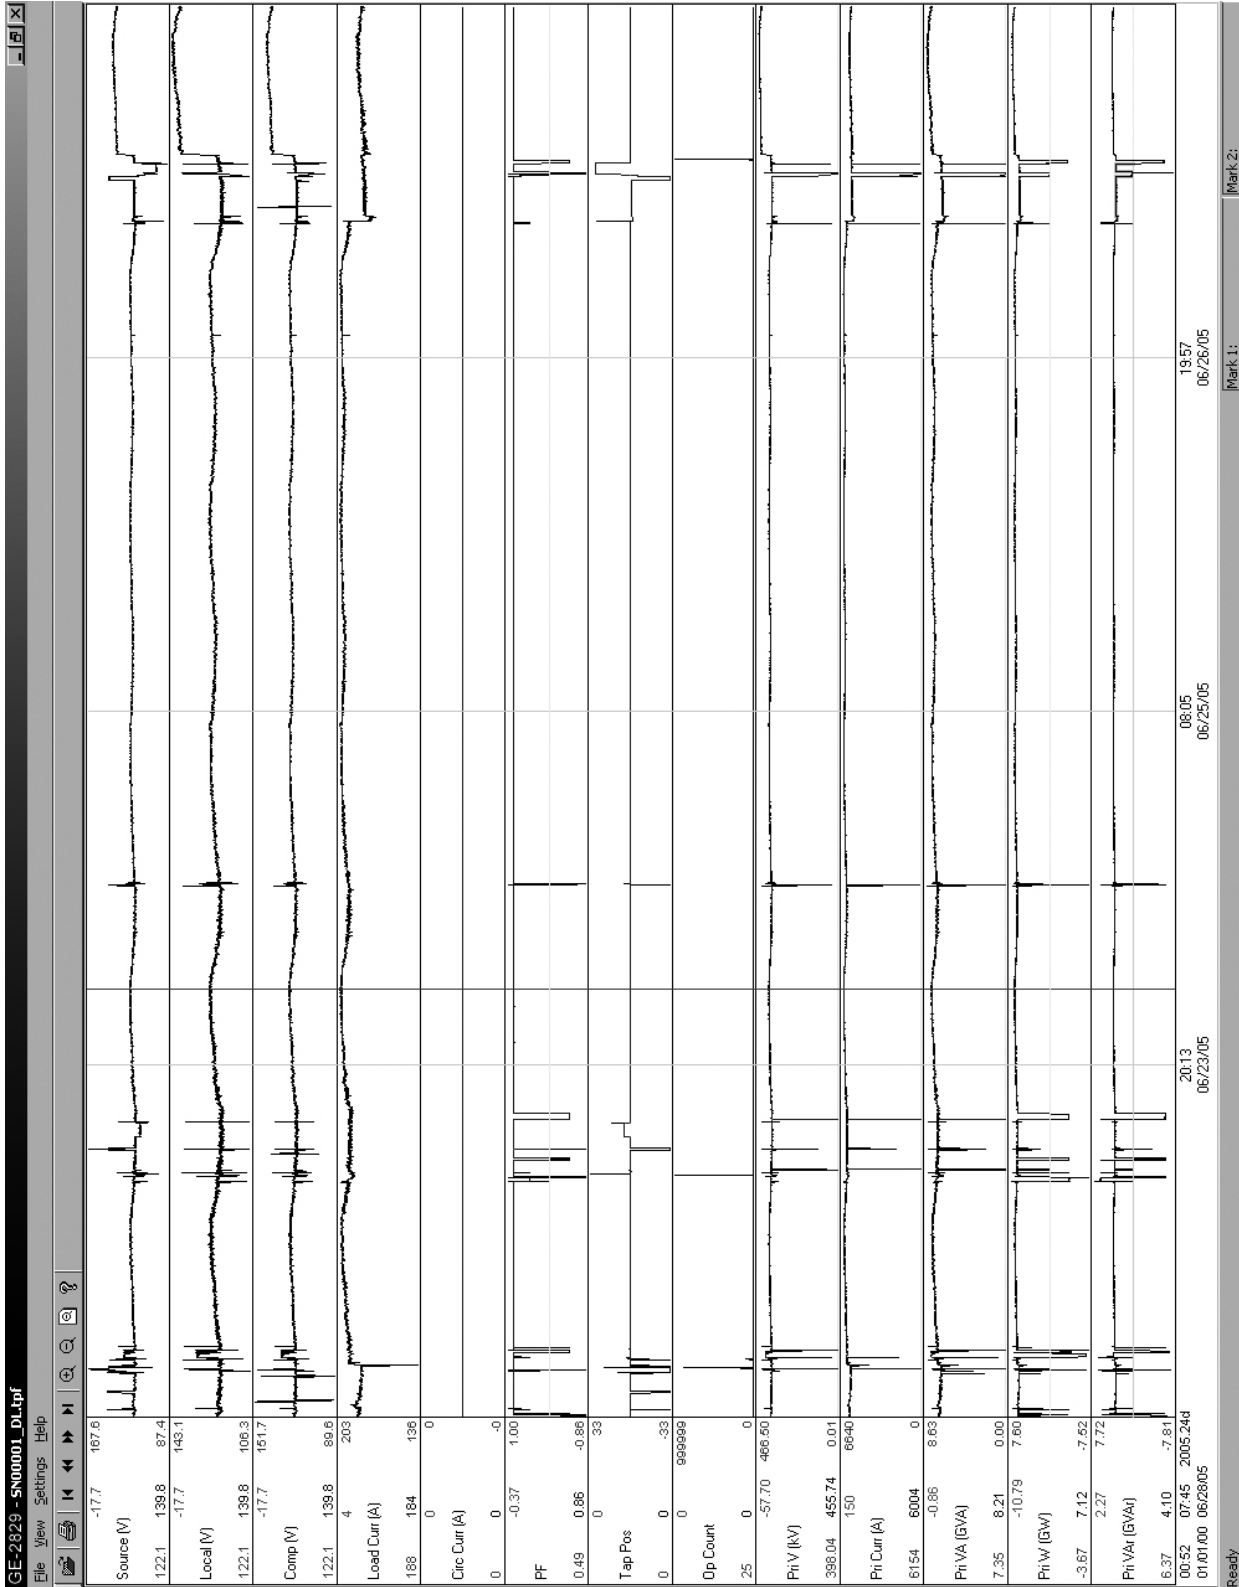

Figure 9-37 GE-2829 Window and Tap Data Example
1. Select the GE-2829 program-item icon from the Becoware group in the Program Manager, or select GE-2829 from the program list using the **Start** Menu. The GE-2829 Window and Toolbar is displayed (Figure 9-37).
3. Open the file. GE-2829 should display the saved data, as shown in Figure 9-37.
When GE-2829 is started, a menu and tool bar are displayed (see Figure 9-37). This section describes each GE-2829 menu selection and explains each GE-2829 command in the same order that they are displayed in the software program. Figure 9-39 presents the GE-2829 Menu and Submenu Callouts.